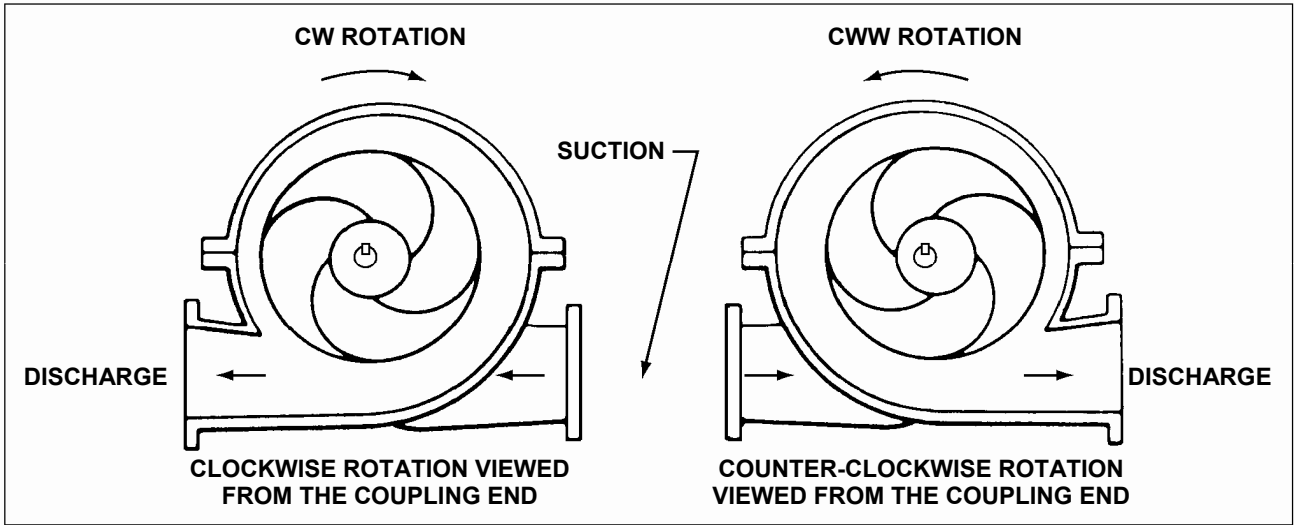
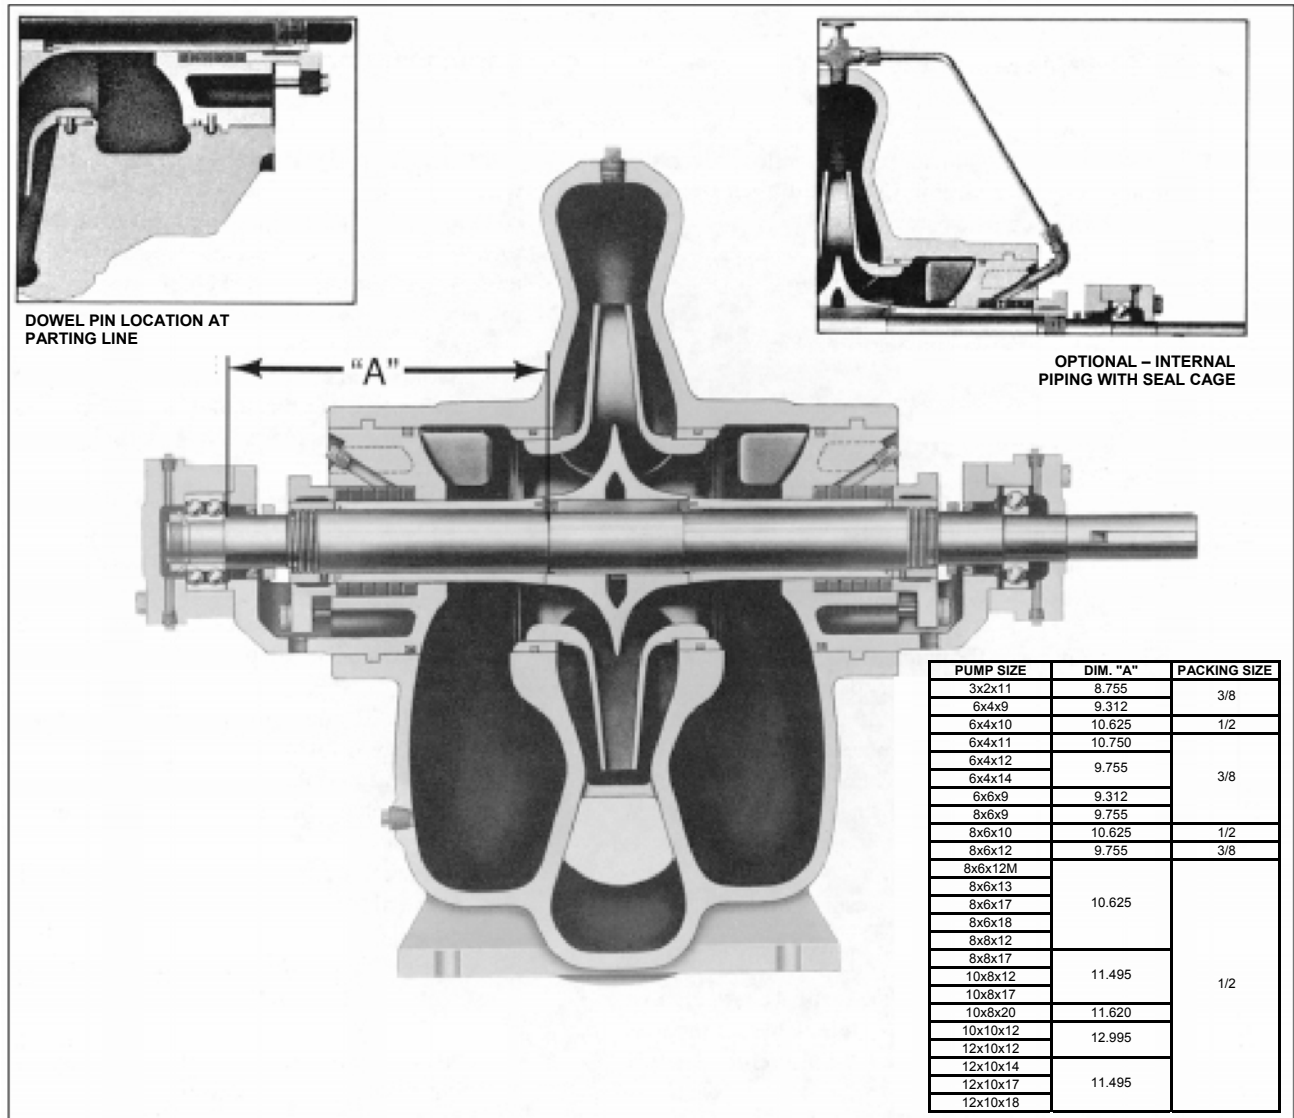
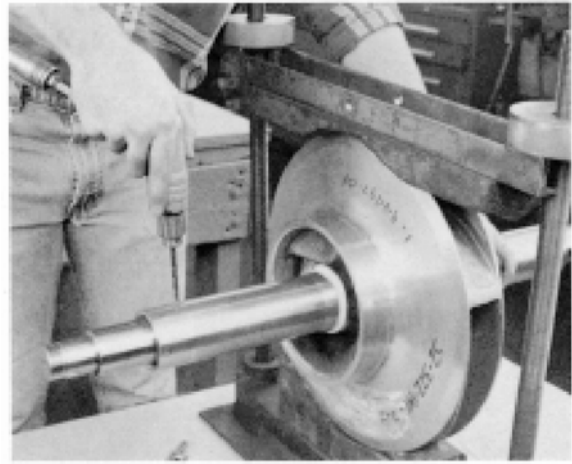

FIGURE 16 – CORRECT RELATIONSHIP OF IMPELLER AND CASING
FIGURE 17 – ASSEMBLY SECTION: PUMP WITH PACKING
FIGURE 22 – DRILLING SET SCREW RECESS
6. Wrong direction of rotation.	Check motor rotation with directional arrow on pump casing. If rotation is correct with arrow, check the relationship of the impeller with casing. (This will require removing casing upper half.) See Figure 16, page 32.
1. Assemble the impeller key (3-911-1) in the shaft key slot.
2. Check the impeller (4-002-0) and casing to determine the correct relationship (See Figure 16) and locate the impeller on the shaft per dimension "A" given in the table on Figure 17.
7. Verify that Dimension "A" in Figure 17 on page 32 is maintained, then using a pin scanner wrench and hammer, securely tighten the shaft sleeve nuts. Then, drill a shallow recess in the shaft through the set screw hole in each of the shaft sleeve nuts. Lock each shaft sleeve nut in position with serrated head set screws (3-902-3) (See Figure 22). A low strength sealant, such as Loctite 271, can be used to retain set screws.
Install 12 full rings of packing (6 per stuffing box) so that the ends butt, leaving no gap between the packing and the stuffing box. (Refer to the table in Figure 17 for packing size.) Press the packing to the bottom of the stuffing box. Stagger the joints of each packing ring at least 90 degrees. For 3 adjacent rings, use the 4, 8 and 12 o'clock positions. **NOTE:** The last ring in each box may not be required until after the pump has operated for a period of time.